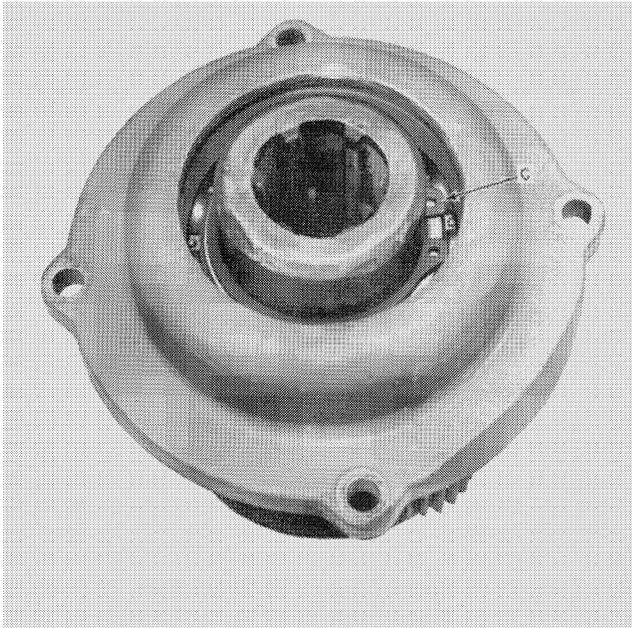
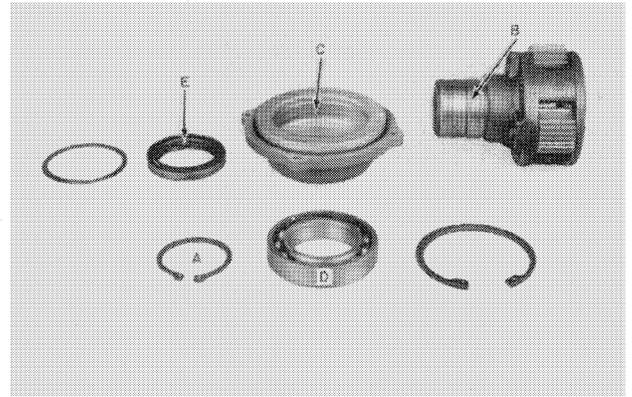

FIGURE 16
FIGURE 18
3. Remove retaining ring, C, Figure 16.
5. Remove retaining ring, A, Figure 18.
6. Remove carrier and gear assembly, B, Figure 18, from front plate, C. The carrier shaft is a light press fit in bearing, D.
3. Press carrier assembly, B, through bearing in front plate and install retaining ring, A, Figure 18.
4. Press shaft seal, E, Figure 18, in front plate and install retaining ring as shown in Figure 16.